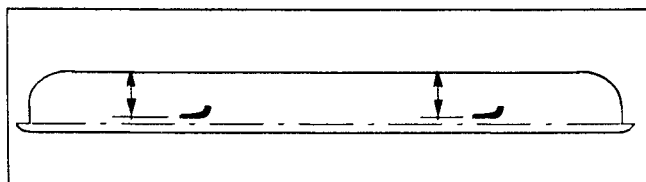

Figure 12
- Rotate blade until the ends face forward and backward (Fig. 12). Measure from inside of cutting unit to cutting edge at front of blade (Fig. 12), and remember this dimension.